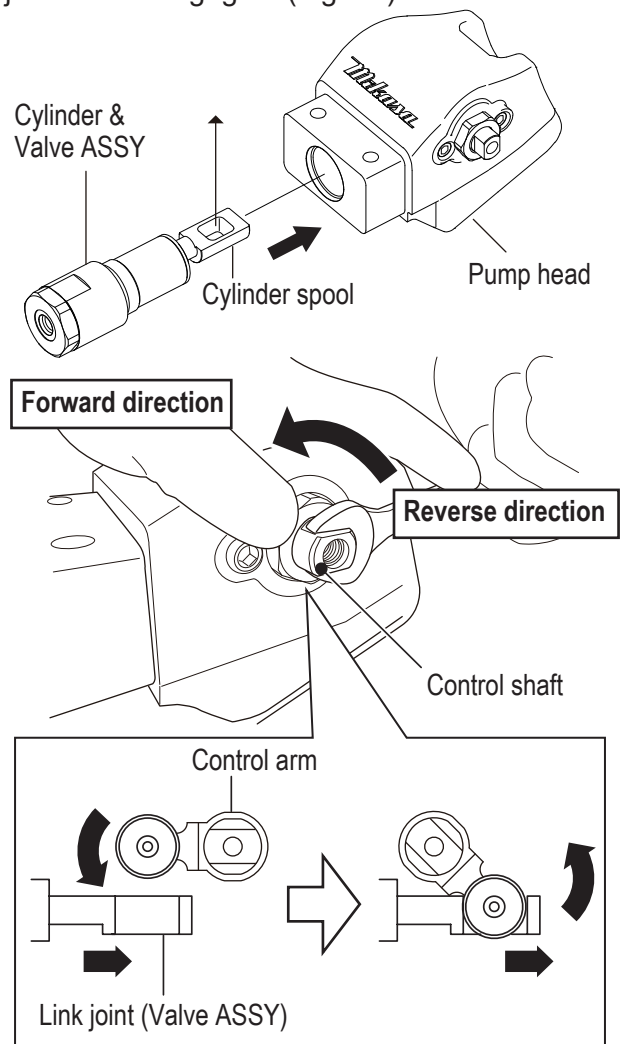

Fig.11
- b. Insert the cylinder & valve assembly into the pump head. By setting the flat surface of the link joint to the direction of the Mikasa mark of the pump head and making the control shaft in the forward direction, the control arm and the link joint will be engaged. (Fig. 11)